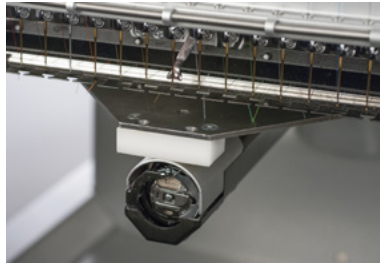

Figure 2 - XY-Home Fixture in Needle Plate Hole
7. Align the fixture pin over the needle plate hole and push the front of the fixture down until the pin on the bottom of the fixture front block is firmly seated in the needle plate hole as shown in Figure 2 above.